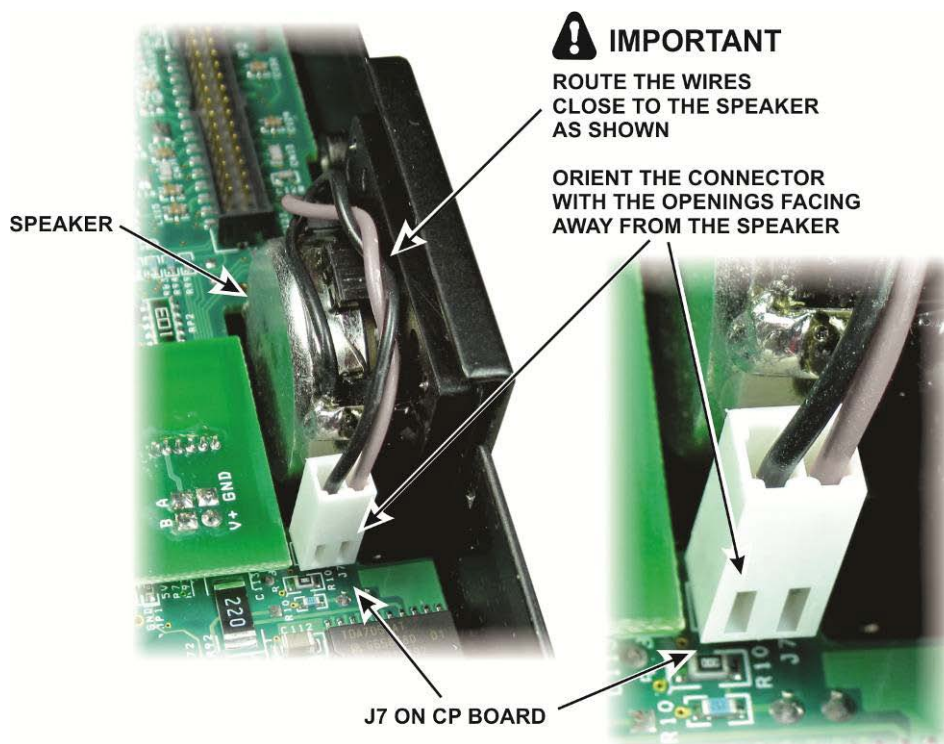

Figure 20. Connecting the Speaker to the CP Board.
- Plug the speaker connector into J7 next to the VFO encoder board (see Figure 20).